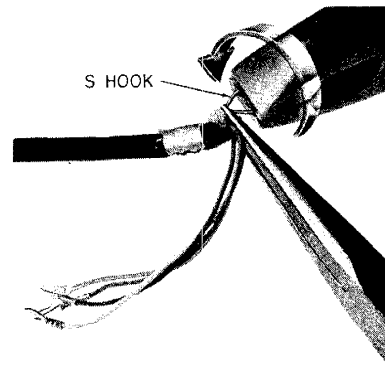

Fig. 14—Bending S Hook
- (2) Using long-nose pliers and 8-inch sidecutters or equivalent (Fig. 14), turn large eye of S hook clockwise until positioned 90 degrees away from small eye of S hook.